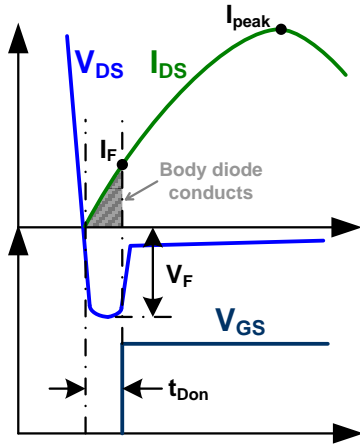

Figure 15: Turn-On Delay Effect on Efficiency
Figure 15 shows how t_{Don} affects system efficiency. During t_{Don} , the body diode of the SR MOSFET conducts, which leads to a power loss that can be calculated with Equation (3):